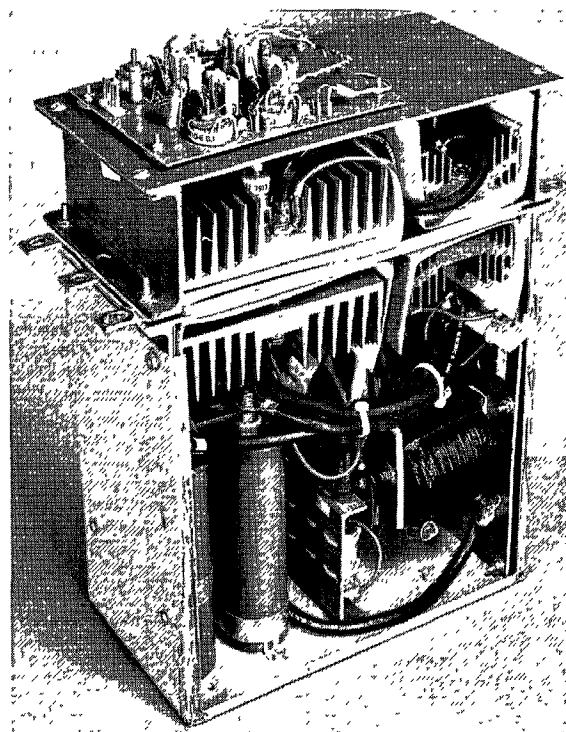

FIGURE 20
2. Stand the Inverter Phase Module on its back side on a 30" high table. The pulse transformer printed circuit card should be on top. (Normally on the front of the module). See Fig. 20.
12. Replace the heatsink and the two (2) nuts that secure it to the DC bus, (P1 or N1).
14. Re-install the insulation board which includes the pulse transformer card and bolt it in place with the four (4) machine screws and nuts.